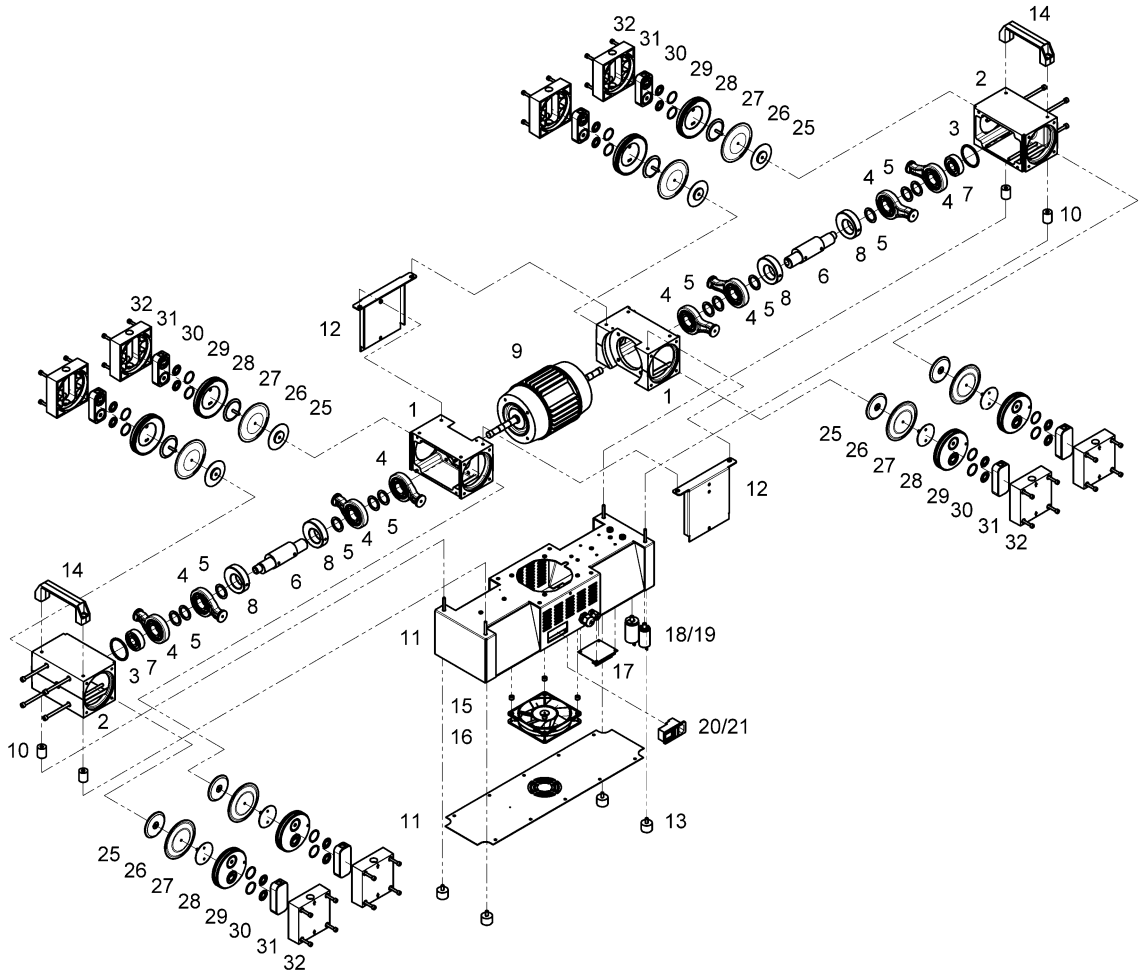

Fig. 11a Exploded view basic structure (LVS 1210 T)
2. Use the size 3 pin-type face wrench to tighten the pressure disc (8), the diaphragm (7) and the strain washer (6) with the correct torque of 5 - 6 Nm.
3. Bring the connecting rod (see fig. 11a) and the diaphragm (7) into the central position.
4. Replace the pump head (5).
5. Insert the valves (3) and the o-rings (4).
(see fig. 11a – 11c)